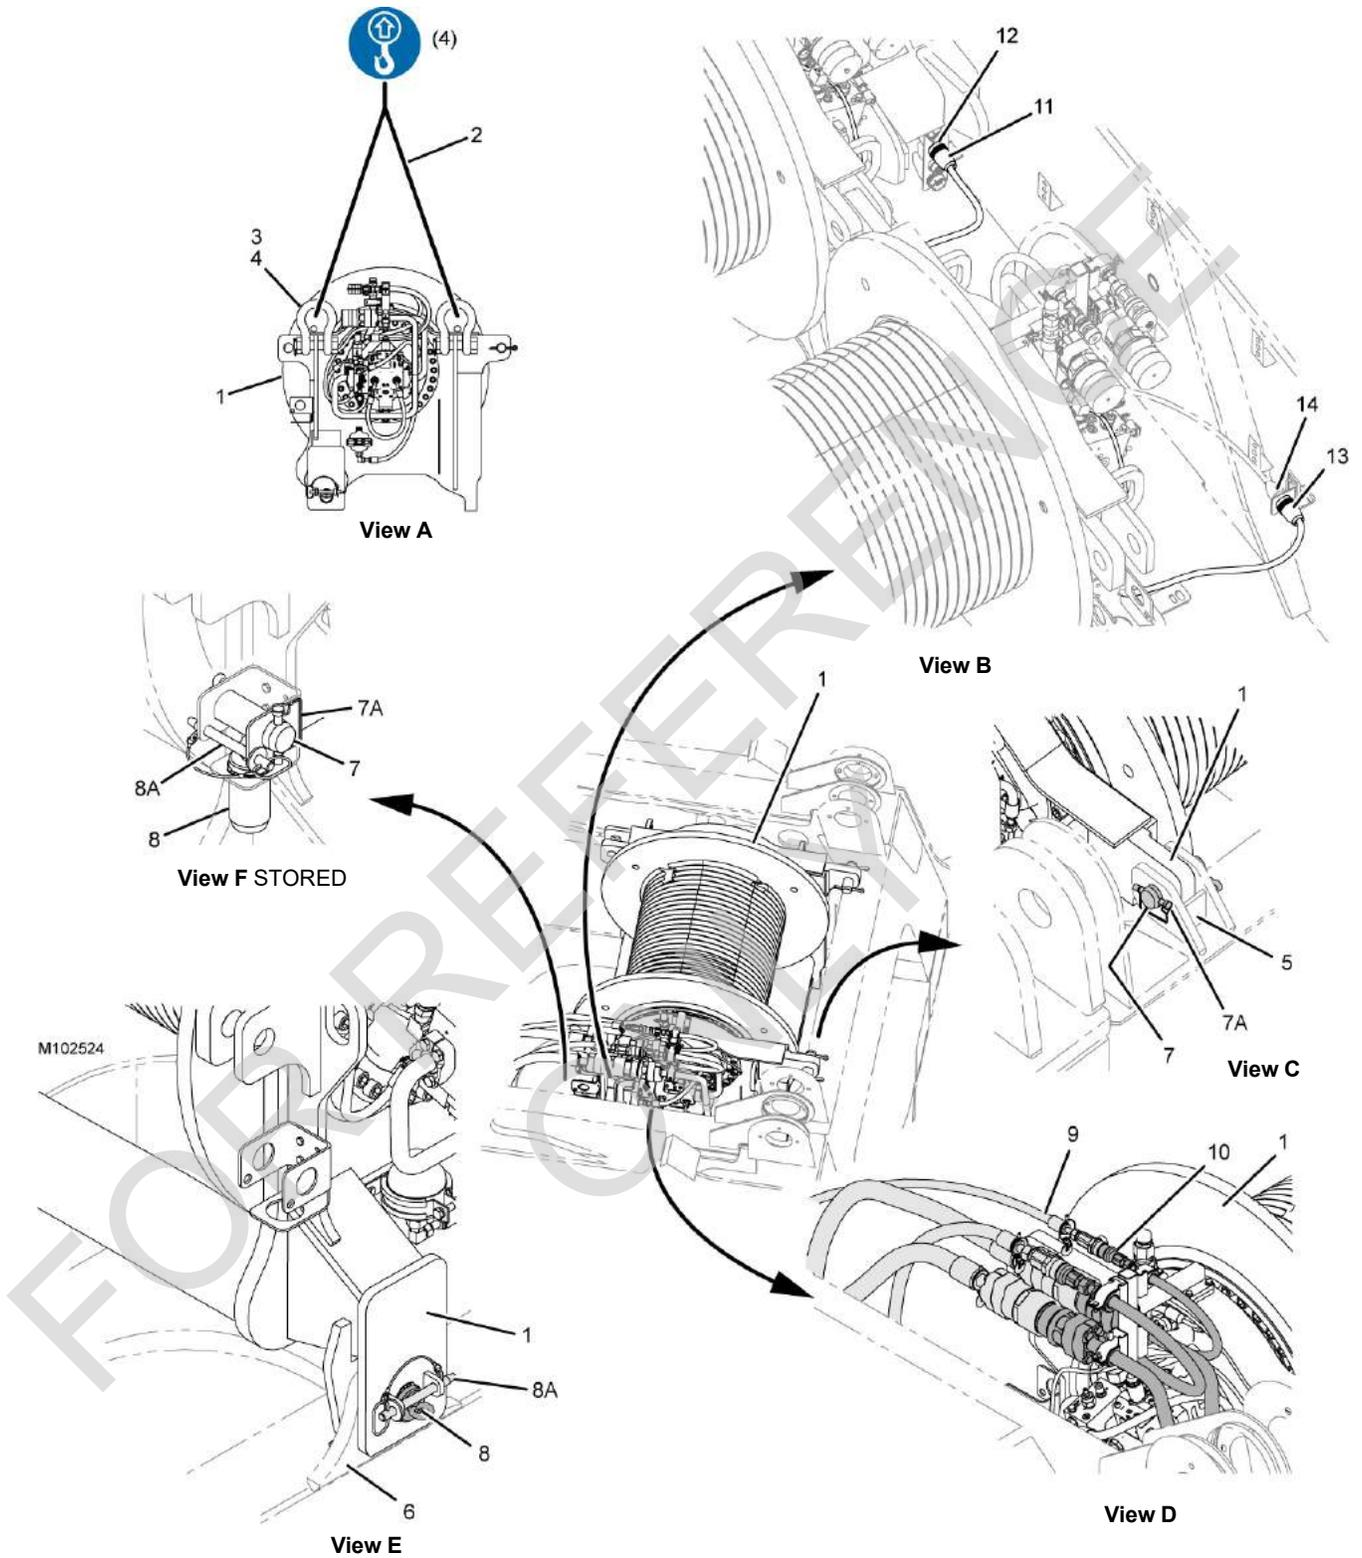

Figure 4-25
Legend for Figure 4-25
See Figure 4-25 for the remaining steps.
- The electric cable (13 View B, Figure 4-25) from Drum 3 is connected to the electric receptacle (14) on the rotating bed.